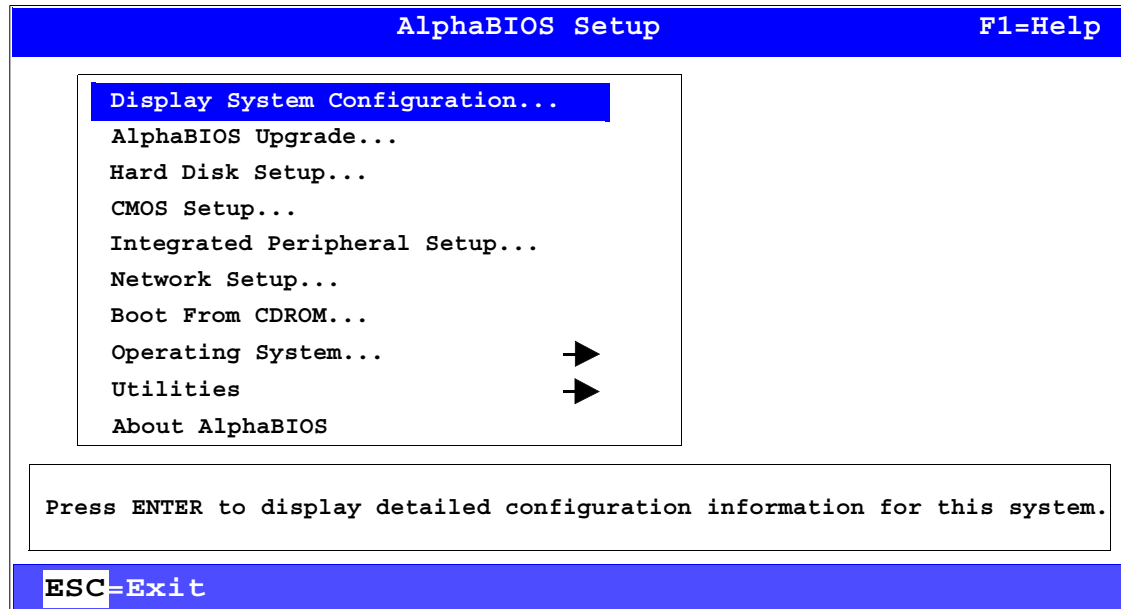

Figure 4-1 AlphaBIOS Setup Screen (Display System Configuration)
3. Immediately press **F2** to call the AlphaBIOS Setup Screen. See Figure 4-1.
Figure 4-1 displays the ten menu options available from the AlphaBIOS Setup screen. They represent the UP1000 system's major user interface.